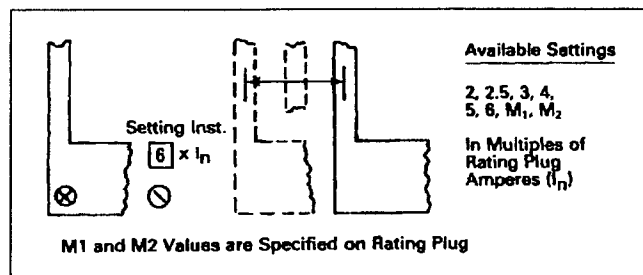

Fig. 4.5 Instantaneous Current Settings
There are eight (8) available Instantaneous Current Settings, as illustrated in Fig. 4.5. Six settings are in the